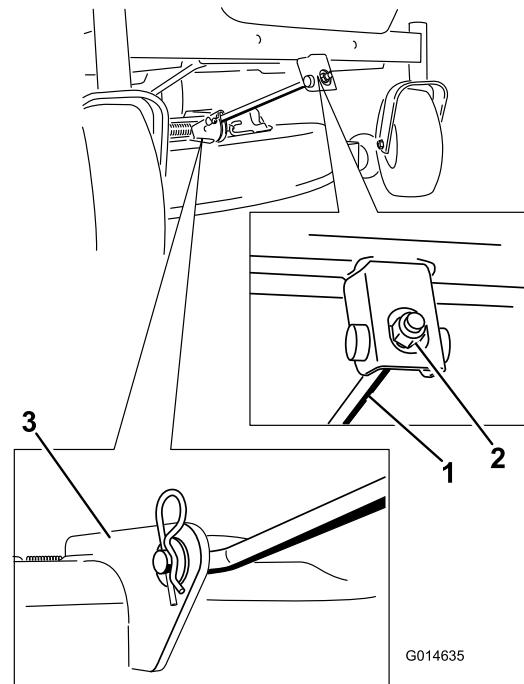

Figure 73
5. Remove the hairpin cotter from the front support rod, and remove the rod from the deck bracket (Figure 73).